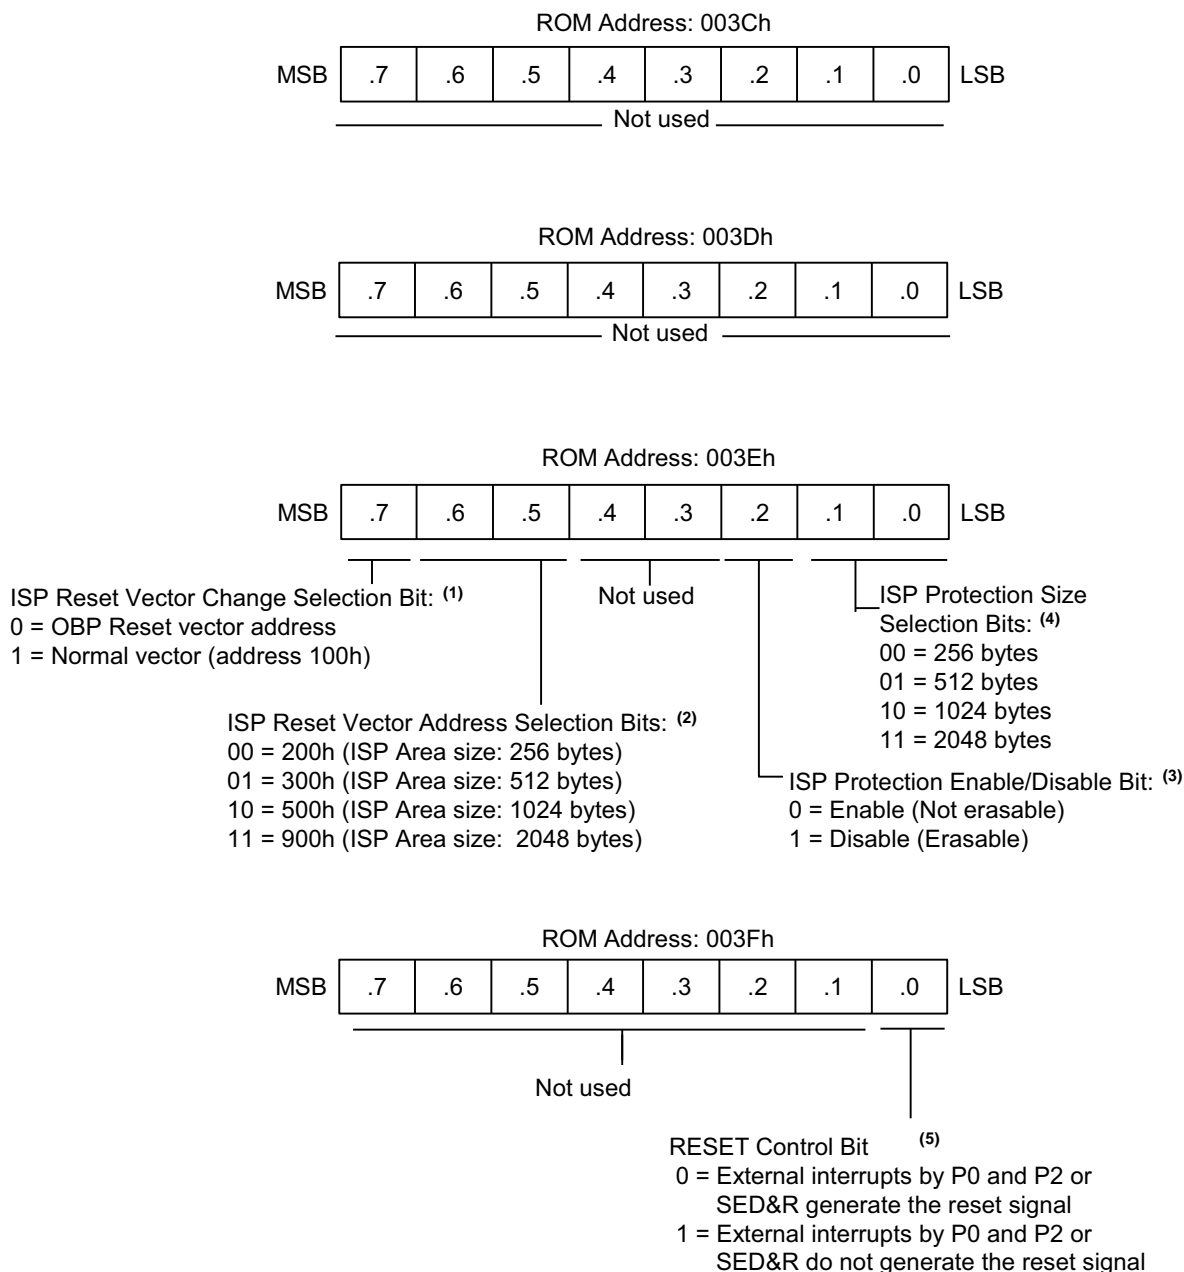

Figure 14. Smart Option
By default, the program memory address at which program execution starts after reset is 0100h. The reset vector address can be changed by setting the Smart Option when using ISP sectors for ISP software storage; see Figure 14 and the Smart Option section, which follow.
The *Smart Option*, diagrammed in Figure 14, is the program memory option for setting the starting condition of the S3F80PB MCU. The program memory addresses used by the Smart Option are from 003Ch to 003Fh. The S3F80PB MCU uses only addresses in the range 003Eh to 003Fh.
1. In Figure 14, by setting ISP reset vector change selection bit (3Eh. 7) to 0, the ISP area becomes available. If this bit is 1, 3Eh. 6 and 3Eh. 5 are rendered meaningless.